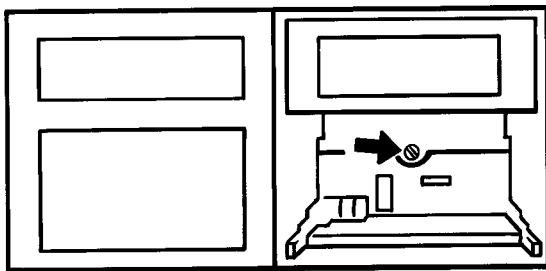

Figure 1 Jacking bolt location
3. Unscrew the jacking bolt (figure 1) and carefully slide the chassis forwards, ensuring that the flexi cable at the rear of the writing system is not forcibly pulled out of its connector.